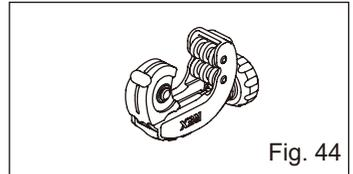

Fig. 44
- 7) RB tube cutter Model N28 (Fig. 44)